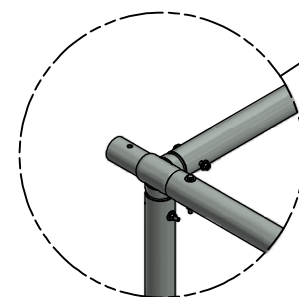

FIGURE 1
*Connect two Horizontals, SH6000 & SH6001, with Ø5/16" X 3 1/2" Hex Bolt (NB1887), 5/16" Flat Washer (NB1886) on one side of connection, 5/16" Flat Washer (NB1886) 5/16" Lock Washer (NB1862), and 5/16" Hex Nuts (NB1872) in this order. Bolt heads should be to the outside. Tighten securely (FIGURE 1). Install assembly by inserting into adjacent fittings and bolt as above.